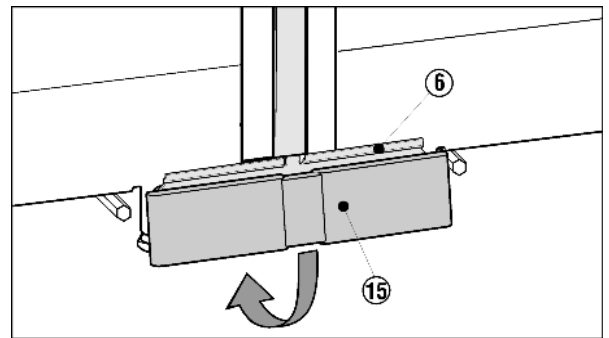

Fig. 10
- ▶ Take the lower cover Fig. 10 (15) from the accessory bag and attach it to the mounting bracket Fig. 10 (6) from above. Engage the cover at the bottom.